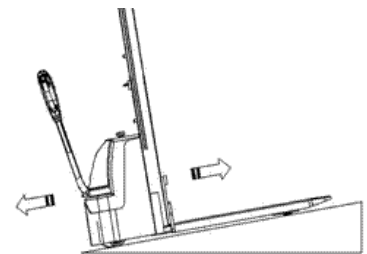

Figure 7 – Movement on a Slope
- Move the control handle upwards or downwards into braking range (B) and the driving motor will stop mechanically. See Figure 7.